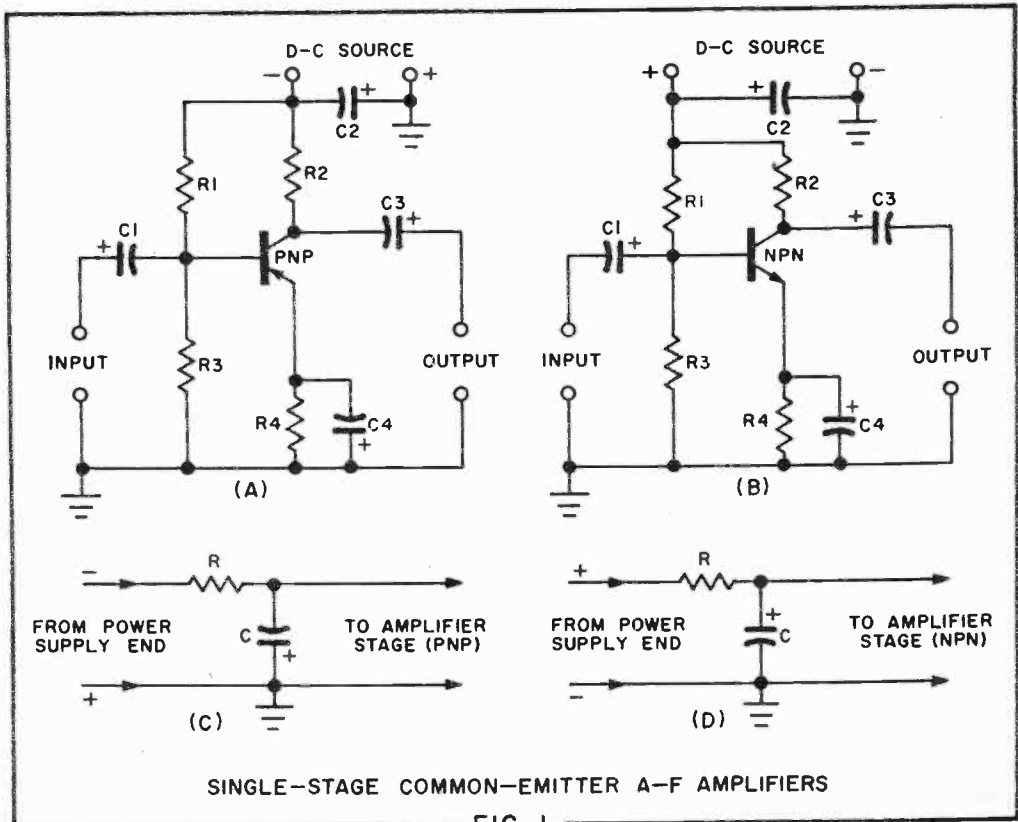
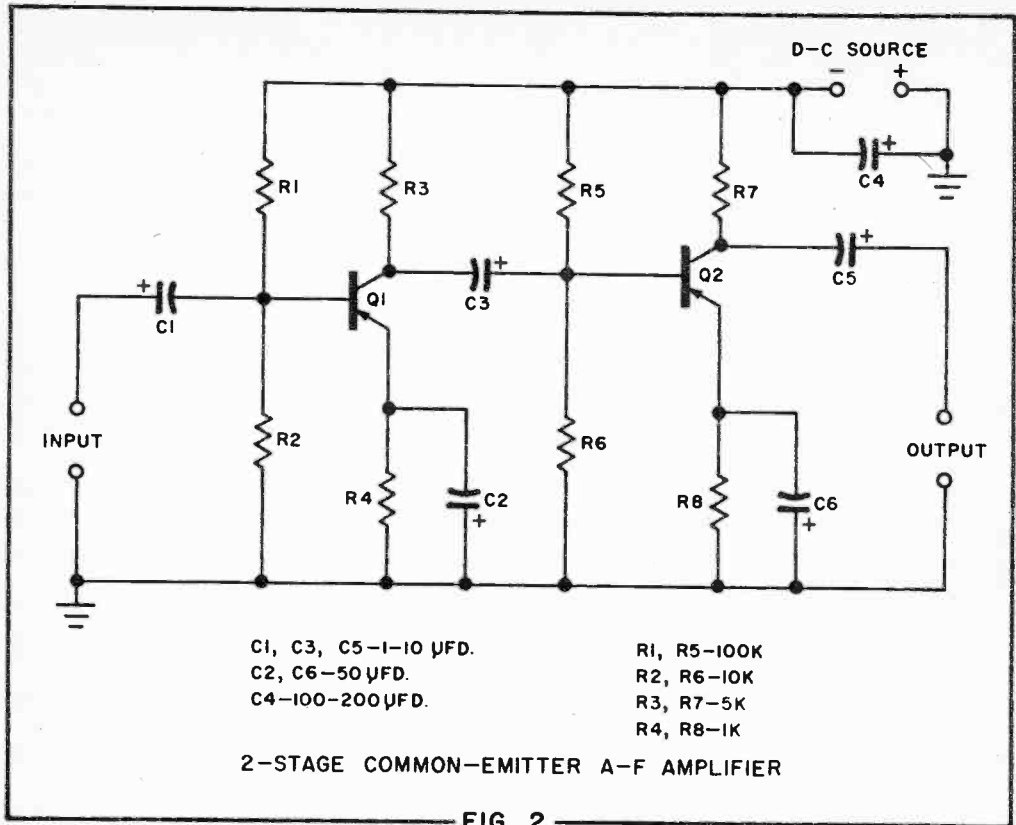

FIG. 1
FIG. 2
Figure 1 shows single-stage RC-coupled, common-emitter AF amplifiers circuits. This type of circuit is widely used in sound systems, audio amplifiers, instruments, and control devices. Figure 1(A) employs a PNP transistor, and Figure 1(B) an NPN transistor. Figures 1(C) and 1(D) show a simple decoupling filter which would be required in a multistage amplifier consisting of several cascaded RC-coupled stages. Figure 1(C) is used with the PNP circuit, and 1(D) with the NPN circuit.
All capacitors are electrolytic. Note that the polarity of *all* capacitors must be reversed when the transistor is changed from PNP to NPN. In Figures 1(A) and 1(B), C_1 and C_3 are coupling capacitors and C_2 and C_4 are bypass capacitors. DC base bias stabilization is supplied by the voltage divider R_1 - R_3 , and current limiting is provided by emitter series resistor R_4 . The R_1 - R_3 voltage division results in the application of a DC voltage that is somewhat lower than the supply voltage to the base of the transistor and to the inner terminal of C_1 . This voltage is negative in the PNP circuit and positive in the NPN. Unless degeneration is desired, R_1 must be heavily bypassed. This is accomplished by C_2 . In a preamplifier employing a conventional AF transistor and a 6-12-volt supply, typical circuit constants are: C_1 and C_3 1 to 10 mf (depending upon desired low-frequency response), C_2 100-200 mf, C_4 50 mf, R_1 100K, R_2 4.7K, R_3 10K, and R_4 1K. In the decoupling filters (Figures 1C and 1D), typical values are C 50 mf and R 220-330 ohms in a 3-stage voltage amplifier.
turization demands a smaller-sized (lower-voltage) capacitor, since in the circuits shown in Figures 1(A) and 1(B), the transistor base voltage is about one tenth of the supply voltage.
In a multistage circuit, the situation is slightly different. The interstage coupling capacitor (C_3 in Figure 2) has the negative collector voltage of transistor Q_1 applied to its negative terminal, and the lower
For good safety factor, the supply bypass capacitor (C_2 in Figure 1 and C_4 in Figure 2) should have a DCWV rating equal to twice the supply voltage. The filter capacitor in the decoupling network (C in Figures 1C and 1D) should be similarly rated.
The necessity that leakage currents be low in miniature electrolytic coupling capacitors in transistor circuits is apparent from an inspection of Figure 2. The voltage divider networks (R_1 - R_2 and R_5 - R_6) stabilize the DC base bias of the transistors. This stabilization provides some temperature compensation, as well as minimizing changes in operation when transistors are interchanged or replaced. Very importantly, the DC bias also sets the operating point of the transistor along its characteristic curve, so that Class-A operation, for example, is secured. If the leakage of capacitor C_3 is high, the voltage at the junction of R_3 and R_6 will be raised to some value approaching the collector potential of transistor Q_1 . This change in voltage will